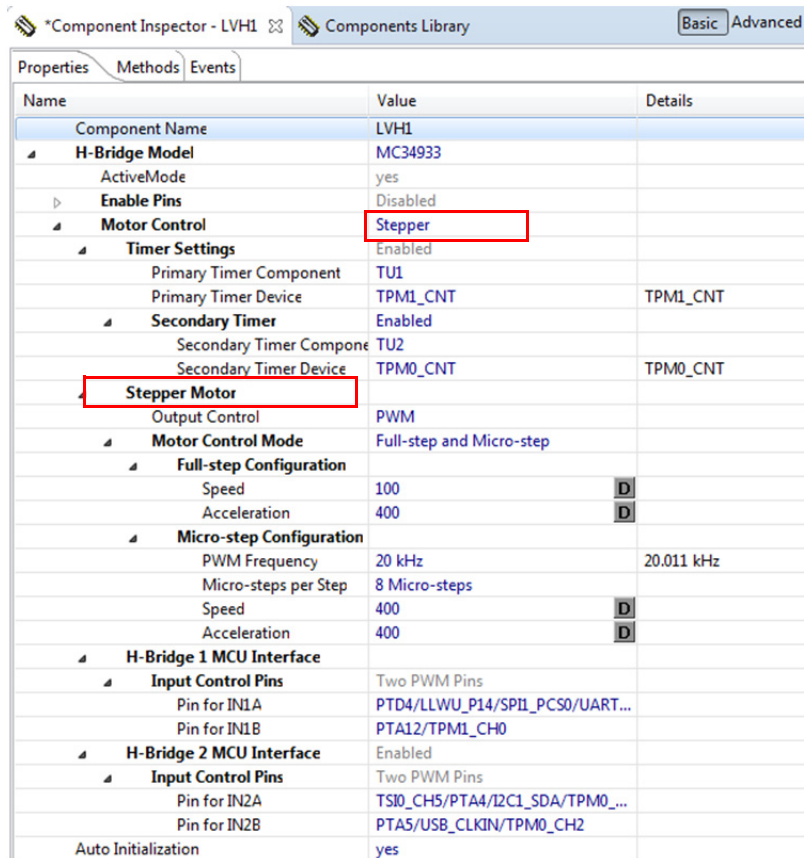
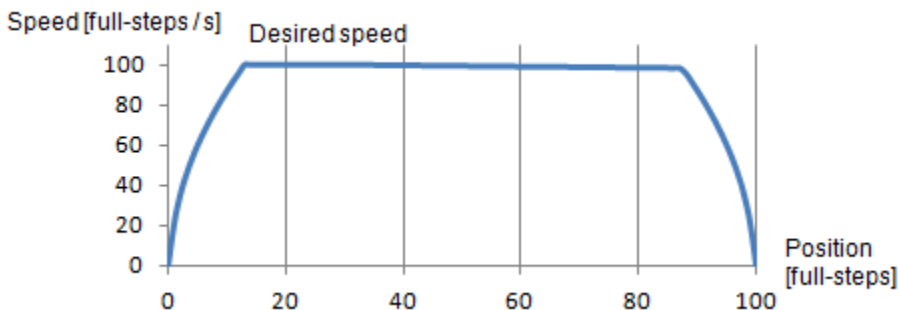

Figure 18. Component settings to control a stepper motor
Figure 19. Acceleration and Deceleration Ramp
- a) **Full-step Configuration** contains speed and acceleration settings. Code for the acceleration and deceleration ramp is generated when the **Acceleration** property is set to a value greater than zero. Note that acceleration is always the same as deceleration. An example of an acceleration ramp is depicted in Figure 19. The acceleration setting is 400, as shown in Figure 18.